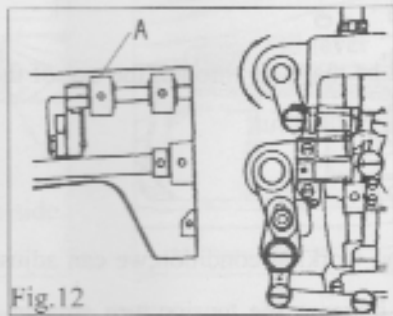

Fig.12
## 10. ADJUSTING THE ALTERNATING MOVEMENT(Fig.12)
Adjustment method: loosen the screw(A) of the presser lifting shaft, turn the presser lifting crank as the Fig.12. Turn clockwise the rise of the walking foot increases and the rise of the presser foot decreases. Turn counter-clockwise the rise of the presser foot increases and the rise of the walking presser foot decreases. But the adjustment of the rise must be limited in a range. After adjustment tighten the screw(A), and turn the pulley by hand, use the machine after checking.